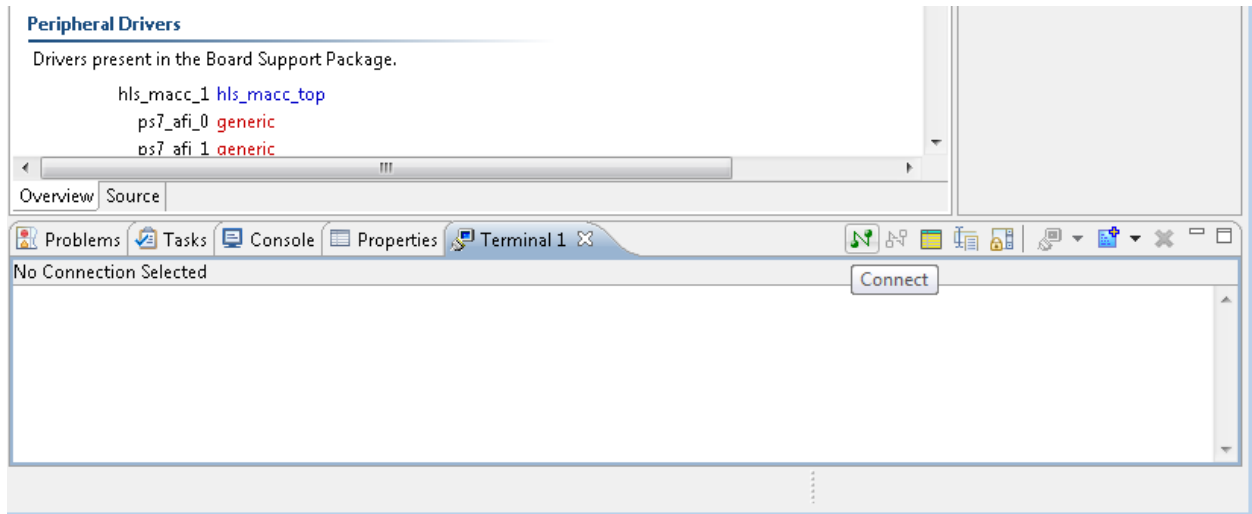

Figure 239: The Connect Icon
- a) Click the **Connect** icon (Figure 239).